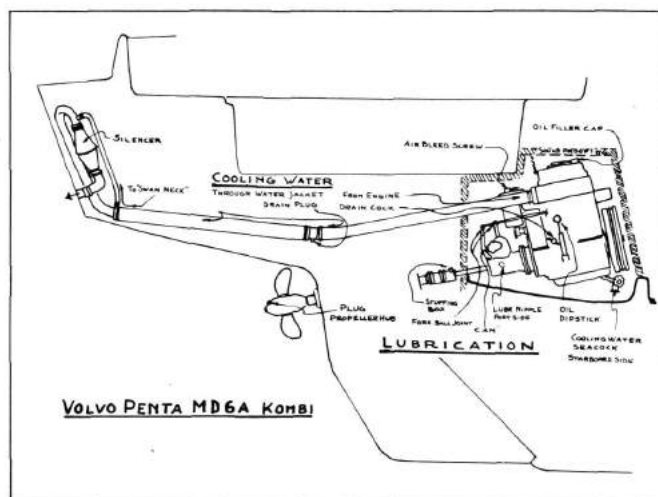

Fig. 16
3. Check that the cooling water inlet seacock is open. Also check that the drain cock on the engine block is closed (port side near the oil dipstick) and that the drain plug on the exhaust system is screwed tight. See fig. 16.
3. Pump to get a pressure in the fuel system. Open the vent screw on the fine filter. See fig. 16. Continue pumping until fuel free from air bubbles flows out. Close the vent screw.
1. Check that the cooling water seacock is open. See fig. 16.
1. After stopping the engine close the seacock on the cooling water intake, fig. 16.
2. Open the cooling water drains on the engine block and exhaust system (fig. 16).